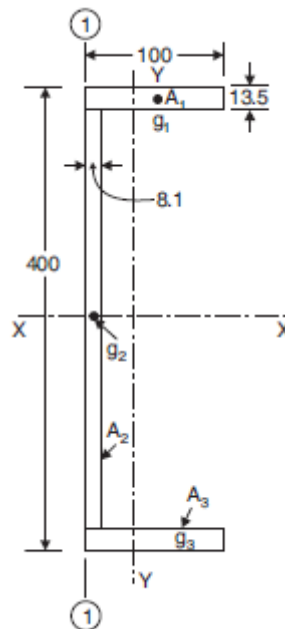

Fig.26
10. Compute the second moment of area of the channel section shown in Fig. 26 about centroidal axis x-x and y-y.